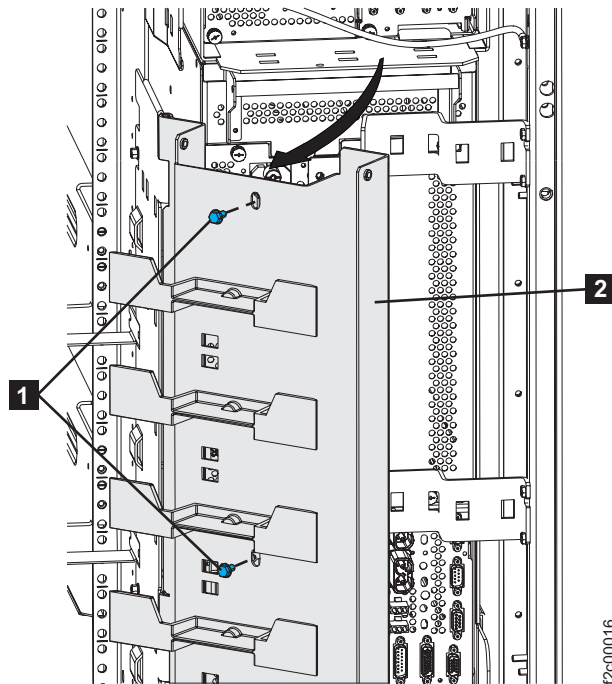

Figure 18. 208VDC bus bar gate service position
3. Remove the two screws **1** and pivot the 208VDC bus bar gate to the service position **2**, as shown in Figure 18.